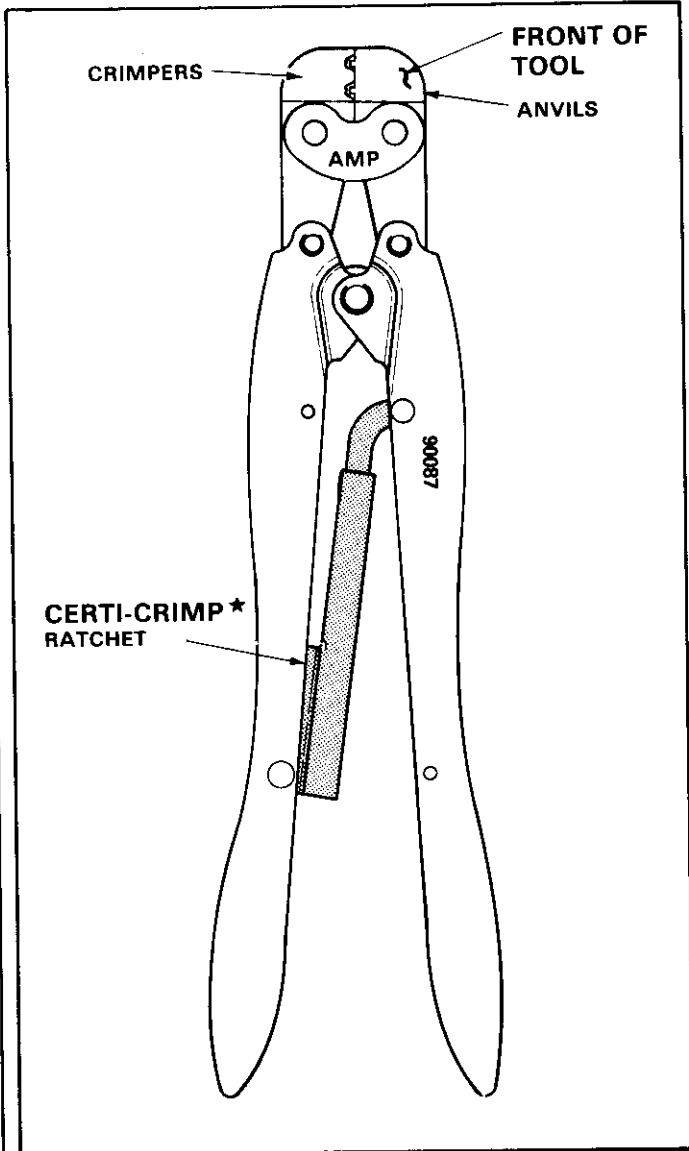

Fig. I-1
**I-2. DESCRIPTION (Figures I-1 and I-3)**